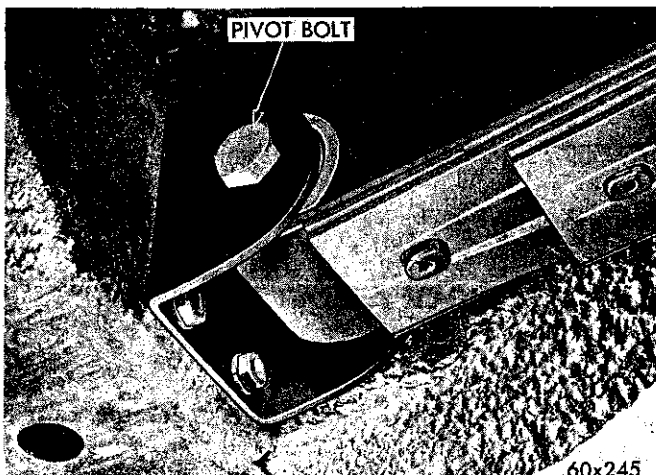

Fig. 3—Rear Spring Front Hanger
(1) Position the springs in their respective front hangers (Fig. 3) and install the pivot bolts and nuts (finger tight only).